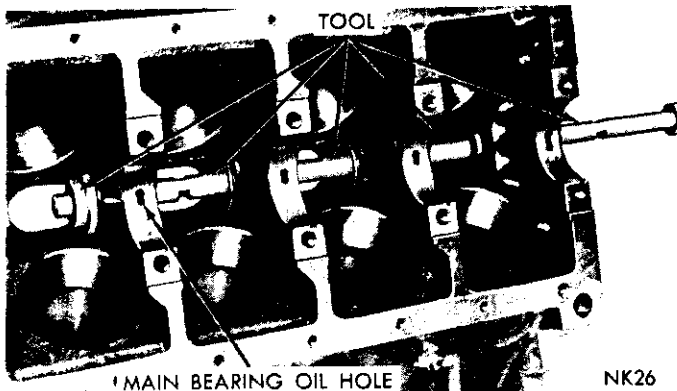

Fig. 33—Removing Camshaft Bearings
(1) With engine completely disassembled, drive out rear cam bearing welch plug.
(2) Install proper size adapters and horse shoe washers (part of Tool C-3132A) at back of each bearing shell to be removed and drive out bearing shells, (Fig. 33).